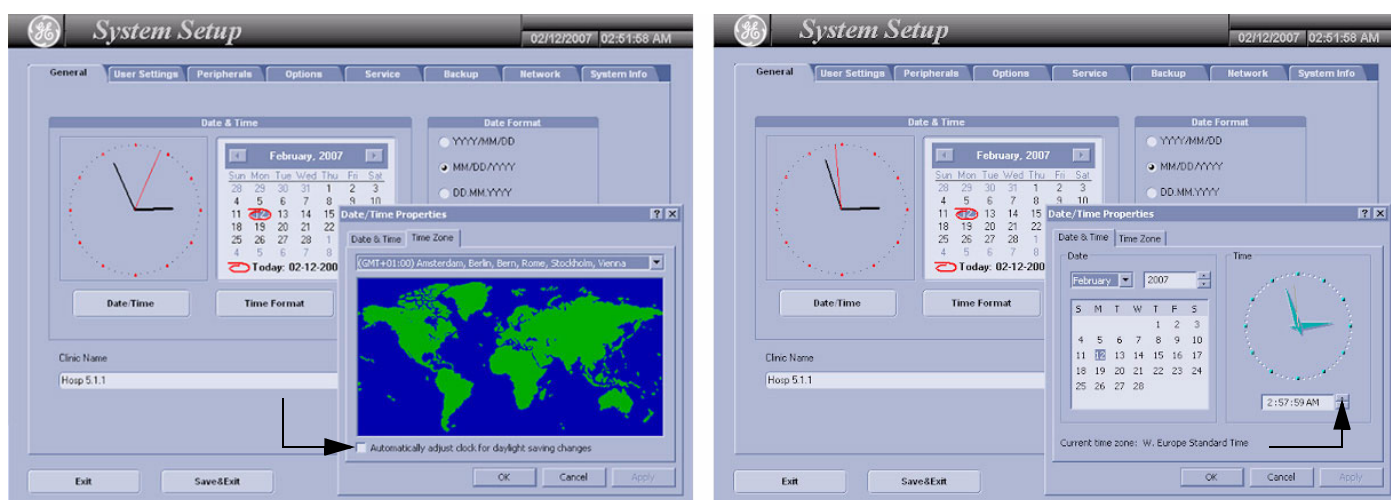

Figure 6-6 Uncheck check box / adjust time
- 6.) Uncheck "Automatically adjust clock for daylight saving changes" check box and then click APPLY (see: left image of Figure 6-6 below).
- 8.) Set the proper time for the system's location and then click OK (right image of Figure 6-6 above).